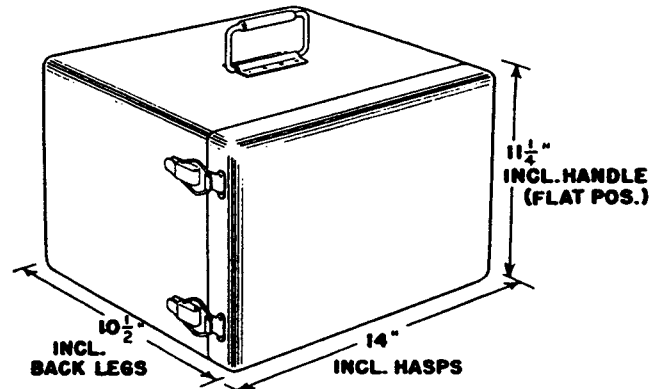

Figure 3-2. RF Signal Generator Set AN/URM-25D Outline Dimension Drawing
(1) Antenna Simulator SM-35/URM-25, (5:1) Fixed Attenuator CN-223/URM-25D, (10:1) Fixed Attenuator CN-224/URM-25D, Impedance Adapter MX-1487/URM-25D, Test Lead CX-1363/U, Coaxial Adapter UG-201A/U (P801), and instruction book will be found on the inside of the panel cover. An aluminum plate with ferrule clips is provided for mounting these units.
(2) Output cables W104, W105, and W106 are also mounted on this aluminum plate.
c. Dimensions of the signal generator are shown in Figure 3-2.